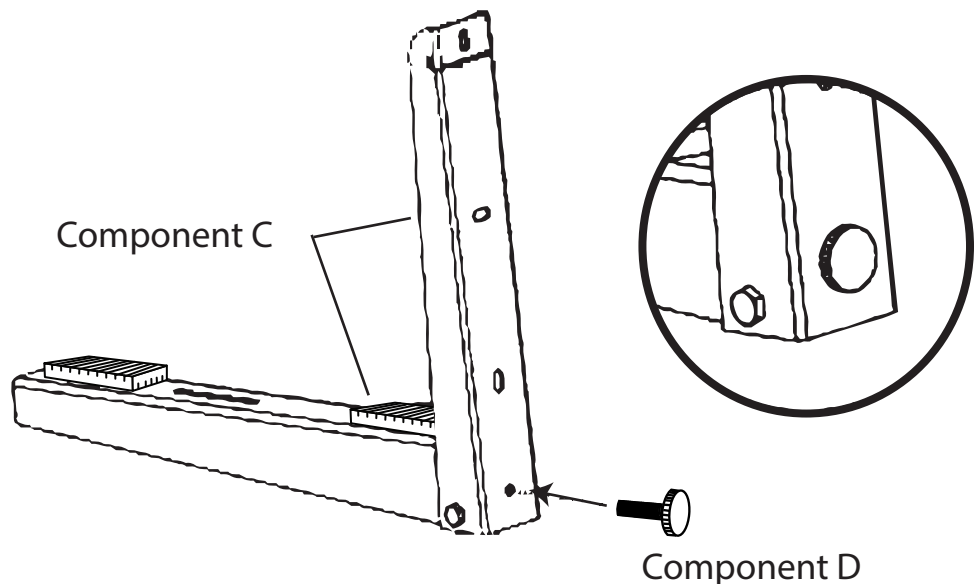

Fig. 2.2
2. Insert component D into the hole at the base of the rear of component C. Please refer to **Fig 2.2**.